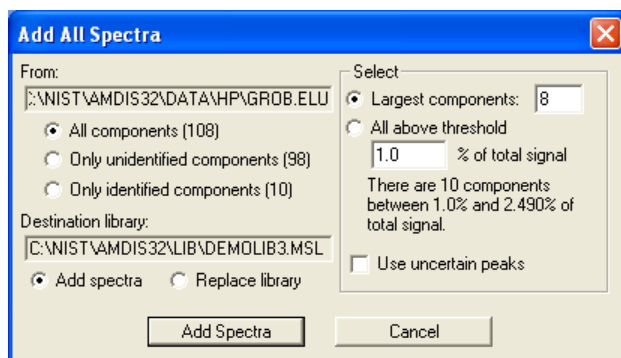

Figure 160 - Add All Spectra
Click **Largest components** and enter how many components are required of the **From** group's type (8 from **All components (108)** in Figure 160 - Add All Spectra). This imposes an absolute maximum on the number of components that will be added. The selection process starts with the component having the largest amount value and works its way down in amount until the specified number has been reached, or there are no more components remaining; based on the **From** group's selection.
Alternatively click **All above threshold** and enter a percentage of total signal amount (1.0 in Figure 160 - Add All Spectra). This is an absolute amount threshold above which all selected components will be added. The text below the threshold value shows you how many components will be selected by the specified value and as you enter a new value this text will change, as appropriate.